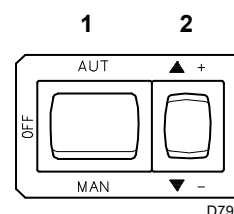

Fig. 23
- Start the burner by closing the control devices and with the switch 1) (Fig. 23) in "MAN" position. As soon as burner starts, check the fan rotation direction through the flame inspection window 19).
- Stop the burner: set switch 1) (Fig. 23) to "OFF" and tighten the screw 3).